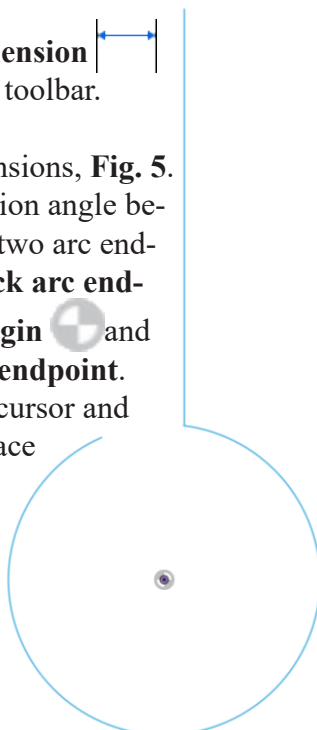

Fig. 3
Step 4. Click **Line**  (L) on the toolbar.
Step 5. Sketch vertical line up from arc endpoint that is directly above Origin, Fig. 3.